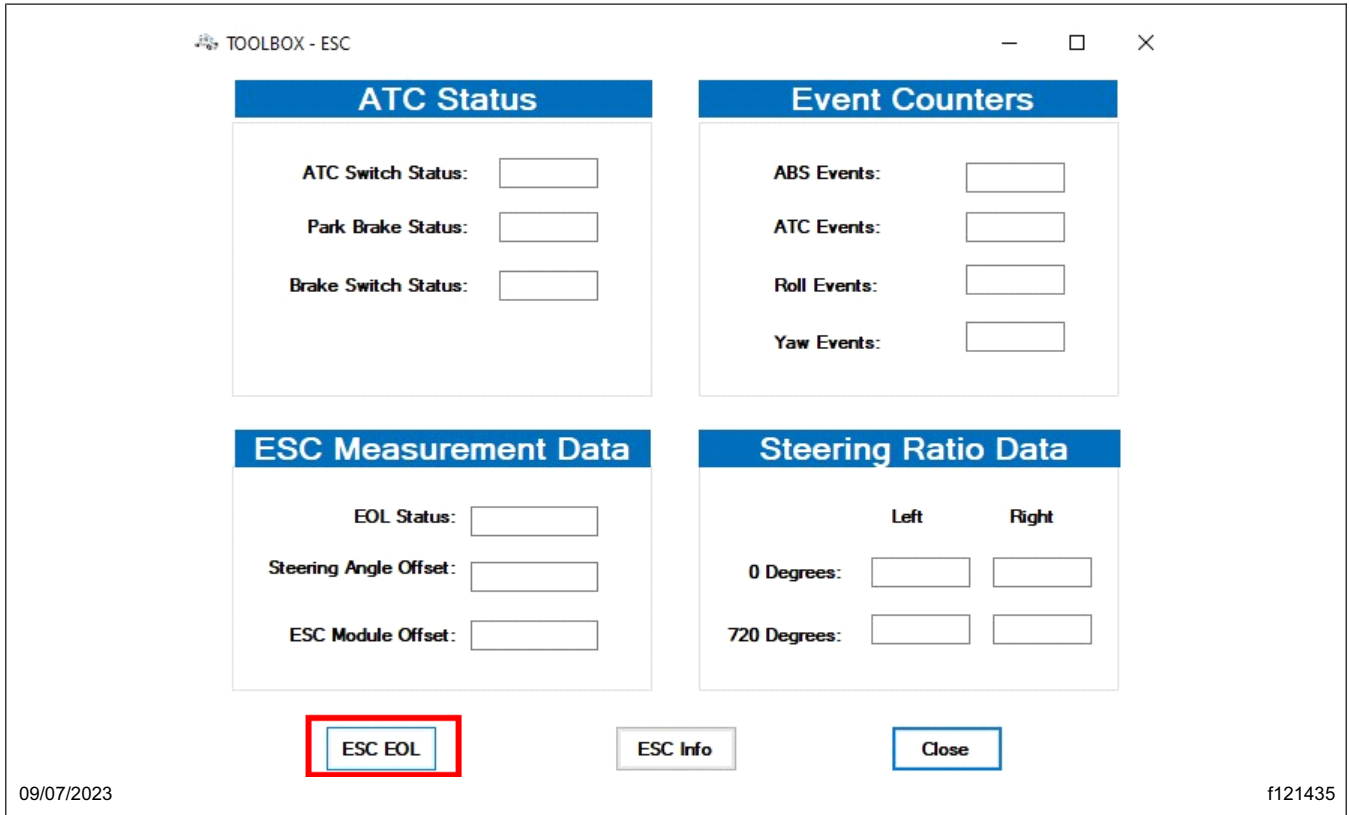

Fig. 23, Selecting the ESC EOL Procedure in Toolbox
28.2 In the 'TOOLBOX - ESC' window, select the 'ESC EOL' button. See Fig. 23.